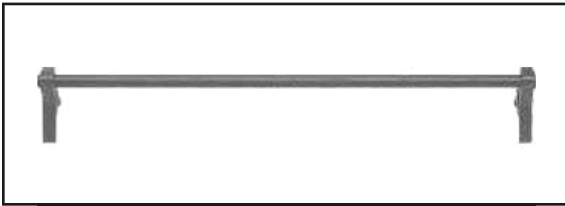

Figure 12. Knife gauge.
6. Position the knife gauge over the knife as shown in **Figure 12** and loosen the gib bolts until the knife is completely loose.